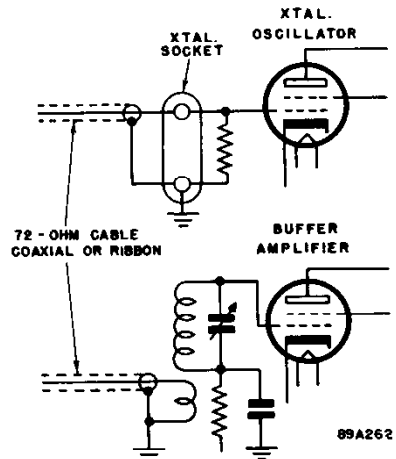

Figure 3. Methods of coupling exciter unit to transmitter
**2. OUTPUT TERMINAL STRIP** - The unit has been designed to operate with a 72-ohm cable, which may be coaxial or ribbon type line. Refer to Fig. 3. for recommended connections at the transmitter end of the line. When using an unterminated line as in the case of feeding a crystal stage, avoid lengths that are multiples of a quarter wave length in the amateur bands. In general a six foot coaxial